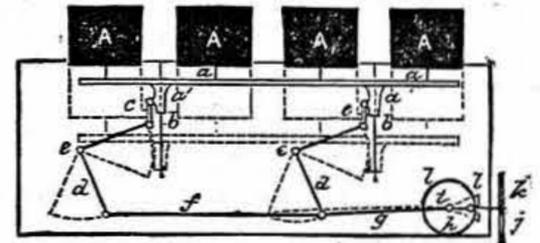
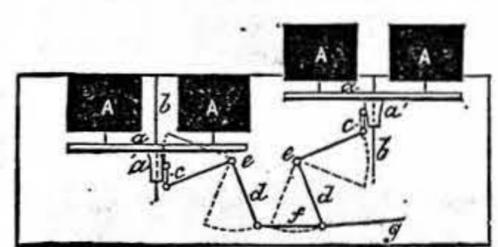
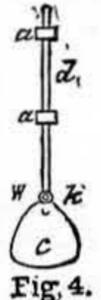

Fig. 1.
Fig. 2.
Fig. 4.
**Table.**—W. S. (Shipley).—I will deal with your second query first. You can decide upon the table yourself. You do not say whether you require flaps to it; but by the absence of these particulars I presume that you want an article, the top of which shall be in one entire piece. The height of it should be about 28 in.; the legs (for a large table) turned from, at least, 2½ in. stuff; the length of their blocks depending upon the size of the table. The thickness of the top should be ½ in. or even 1 in., and the side-framing ¾ in. or 1 in. The method I am going to describe may not coincide with the views of all, but you can make a strong table by following it, with comparatively easy labour. Fig. 2 shows the under-side of one corner of the table. A hole should be there drilled to receive a stout dowel-pin (more than one dowel-pin can, of course, be used to each corner). The lower half of this dowel-pin will enter a hole down the leg-block, as shown in Fig. 1. This diagram also shows how to dovetail-mortise the sides of each block in order that the framing (Fig. 3) may be joined to them. To further strengthen the table, drive a number of screws through the inner side of the framing into the table-top, as in Fig. 6; or by driving them through small blocks as
Table. Fig. 1.—Leg-Block. Fig. 2.—Dowel fixed. Fig. 3.—Dovetail Tenon. Figs. 4, 5, and 6.—Various Sections of Sides. Fig. 7.—Dowel being formed—A, Dowel-Plate.
in Fig. 5. For appearance sake, you might screw moulded rails to the bottom of framing (Fig. 4). Across the table, connecting the framing, might be screwed stout rails, as shown by Figs. 5 and 6. If drawers are required, allowance must be made for their passage through the framing; and bearers should consist of rails screwed against the framing inside between the bottom rails. For drawer making, etc., read up your back numbers of WORK. Touching upon your first question, I must say you have done more than most do, when they ask two or more questions on different topics, by numbering your queries; but still it is a very essential matter, to ensure a satisfactory reply, that each question bearing on a different branch of trade or different trade should be written on a separate sheet of paper. How to sole a boot is rather out of my line of knowledge; but there is a member of our staff who gives instructions upon this trade; and to him would have been forwarded the boot query at the same time that the table question was placed in my hands if it had been on a separate sheet. You will not be surprised, therefore, at not seeing it replied to here; but our Editor, no doubt, will have forwarded it to our brother contributor, whose reply will appear in due course.—J. S.
**Machine for Advertising.**—A. H. (No Address).—You say that the box has slots in it, so I suppose a card appears through each slot. If the cards appear and disappear at the same time, an arrangement similar to skeleton drawing, Fig. 1, might be used. I am assuming that the box in each case has four slots, and in Fig. 1 that the cards, A, rise and fall together, being fixed to a frame, a, fitted with two long bosses, a', through which holes are drilled vertically to fit guides, b, and with projections at side for links, c, c. The guides, b, can be fitted either to the top of the box or the bottom, as is most convenient. Two bell-crank levers, d, d, are pivoted at e, e, the upper end of each being fitted to link c, the other ends being connected together by coupling-rod f. The reciprocating motion is communicated to them by rod g, worked by crank h, which latter is fixed to shaft i, which is driven, in turn, by small cord-pulley, j, on outside of box, through cross-shaft, k, and bevel-wheels, l, l. If the pulley, j, is kept turning at a uniform speed, the cards, A, will remain slightly longer at the top and bottom of their travel than in the centre when rising or falling. The full lines show the positions of the levers, frame, etc., when the cards are raised, and the dotted lines when the cards are lowered. Another plan of obtaining the same motion would be to continue shaft k, Fig. 1, but now placed centrally under frame a, and provided with two cranks exactly under links, c, c, which links, in this case, must be turned into connecting-rods to grip the crank-pins, and as the cranks turn the frame, a, will rise and fall as before. As an alternative plan, suppose you want the two right-hand cards, Fig. 1, to rise together while the two left-hand ones fall: by dividing frame a, Fig. 1, in the centre, and reversing the left-hand bell-crank lever to position shown in Fig. 2, keeping the other gearing as it was, this will be secured. By conveying a reciprocating
motion to the lower ends of bell-cranks, the upper end of one, together with the two cards, will rise, while the other one will fall. Thus the two pairs rise and fall alternately. The pairs need not be next each other; the first and third and second and fourth, or first and fourth and second and third, might be worked together by a slight variation in the mechanism. Still another method is shown in Figs. 3 and 3A, which illustrate a skeleton longitudinal section and an end elevation of crank-shaft, cranks, and connecting-rods. In this case the cards move alternatively, A being completely out of the box, A', A" half out, and A''' hidden in box. In this case each card must be carried and worked separately, and have a separate guide and connecting-rod, the crank-shaft, k, in this case having four cranks at right angles. Thus you get each card rising and falling one after the other, no two cards being at the top or bottom at the same time. By means of cams instead of cranks, these cards might be made to rise and fall quickly, and remain still at the top of the stroke considerably longer than by the crank arrangement. The style of cam, Fig. 4, I have drawn to a larger scale than the others; c is the cam carried on shaft, k, and revolving with it; a, a are the guides for the cards; d is the rod to the top of which the card is fixed; while below, in contact with the cam, is a small wheel, w, to reduce the friction between the rod
**Model Horizontal Engine.**—F. C. (*Cardiff*) writes:—"I feel thankful for the answer re Model Horizontal Engine (see p. 572, No. 141), but what I should like to see is a dimensioned sketch of a model. I may say to F. C., who promised to further help me, that the cylinder I have hasn't got the ports cut in it yet."—[In reply, you do not give me the size of the port face on your casting, but I think I can supply information which will enable you to complete your work. Fig. 1 shows a side elevation of the proposed engine, with the cylinder in section; also a plan view of the connecting-rod, F. Fig. 2 is a longitudinal section of the steam and exhaust passages and the slide-valve. The block is too small to be clearly dimensioned, so I give you the measurements in letterpress. Make the piston, A,  $\frac{1}{4}$  in. thick, and turn it to fit the cylinder truly; then no packing need be used. Face off the insides of the covers until the distance between them is increased from  $2\frac{1}{8}$  in. to  $2\frac{1}{4}$  in.; you can then have a stroke of  $1\frac{1}{2}$  in., with  $\frac{1}{16}$  in. clearance at each end. The piston-rod, B, should be  $\frac{1}{8}$  in. diameter, screwed at one end into the guide-block, D, and at the other into the piston, where its end may be lightly riveted over, to prevent the piston from working loose. The gland, C, should be made to screw into the stuffing-box, which is to be lightly packed with cotton-yarn. The length of piston-rod you must find from your cylinder casting; it must be of such length that when the piston is against the bottom of the cylinder, and the gland, C, just free from the stuffing-box, the guide-block, D, clears easily from the gland. The guide-rods, E, E, should be of wire about  $\frac{3}{16}$  in. (No. 13, B.W.G.) in diameter, screwed at one end into the cylinder cover as shown, the other ends to form a light driving fit to holes in a plate, T, fixed to the bed-plate, M, and slotted out for the passage of the connecting-rod, F. Thickness of plate, T,  $\frac{1}{16}$  in.; of bed-plate, M,  $\frac{1}{4}$  in. The connecting-rod, F, to be  $\frac{1}{2}$  in. thick in the body,  $3\frac{1}{2}$  in. long between centres, and made with a forked end, R, to ride at one end on a pin,  $\frac{1}{16}$  in. diameter, fixed in the guide-block, D, and at the other on a crank-pin, G,  $\frac{3}{8}$  in. diameter.
**Oak Work-Box.**—J. H. T. (*Earlsheaton*).—Without knowing the abilities of J. H. T., or what tools he possesses, it is difficult to advise, but such work-boxes as he can buy at the shops are made in pine, just like a packing-case (see Fig. 1). A rebate is made on all the angles except the bottom; this rebate is filled with hard wood like the box is to be
**Oak Work-Box.** Fig. 1.—Section of Corner of veneered Work-Box; the black quarter circle is hard wood let in before the Veneer is laid. Fig. 2.—Box with mitred Angles, keyed, Top rebated, and end grain hidden by insertion. Fig. 3.—Section of Fig. 2 when completed. Fig. 4.—Section, if the Sides and Ends are rebated instead of Top. (Not drawn to scale.)
veneered with. The ends, back and front, and top are then veneered, and the inserted hard wood just mentioned becomes available to make a nicely rounded corner. The box is then cut, thereby forming a lid, having its dimensions and figure of grain corresponding with the box itself. The edges of the cut surfaces are then veneered; hingeing, cleaning off, and the fixture of lock, escutcheon, etc., complete the box. This is the simplest way to make a work-box, but it is only available for veneered work. For solid wood, dovetailing is the best way, but if that is too difficult, I should mitre the sides and ends together, keying the joint with hard wood (see Fig. 2). In that case I should prepare a rebate for the top and bottom to rest in, and round the top insert a piece of hard wood as a finish, and to hide the end grain (see Fig. 4). Fig. 3 shows rebate on top.—B. A. B.
to each other at the centres and ends. There are four sets, at right angles to each other, one only being shown in the sketch. The simplest way to fasten the laths to the collars is to turn a groove in the collar, as Fig. 2; cut four slots at right angles to each other, ¼ in. wide by ½ in. deep, into each of which one lath fits, as dotted line, Fig. 2, and a copper wire running in the groove, and passing through a hole in each lath, as shown, holds all tight, and yet allows the laths to turn as on a pivot. This size winder will hold any skein from 12 in. to 8 feet. As these make exceedingly popular Christmas presents to ladies, and can be easily made in numbers by anyone possessed of a lathe, I shall be pleased to write an article, giving detailed instructions and drawings, during next year, if the Editor wishes it.—[By all means submit this article on approval.—ED.]